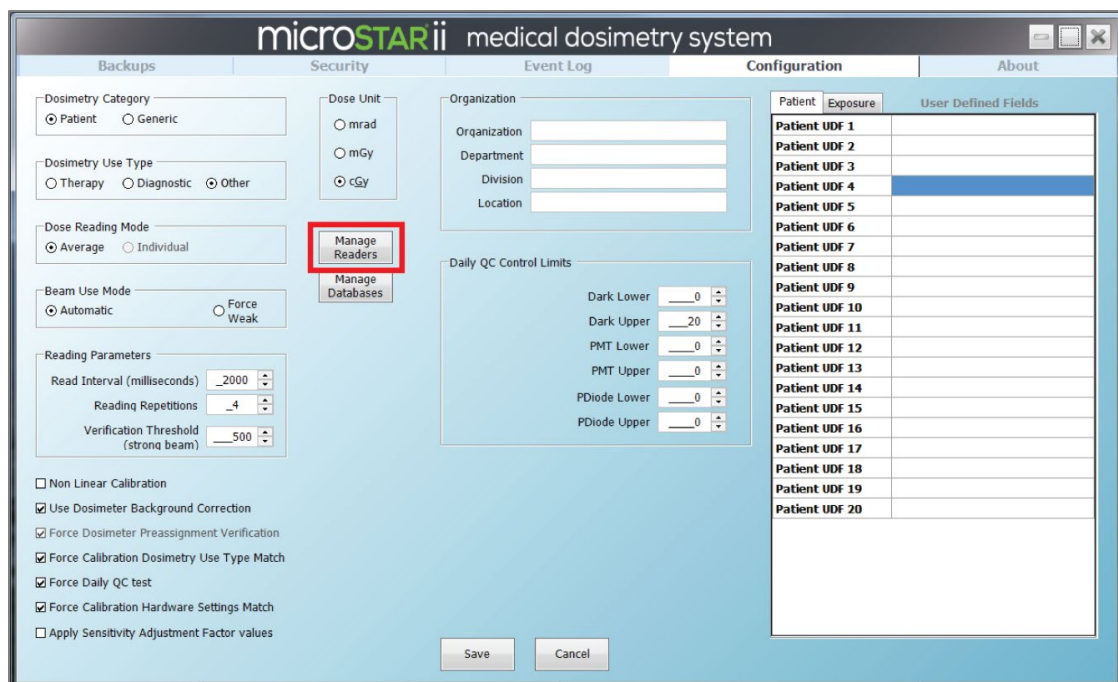

Figure 5-3: Configuration Tab – Manage Readers
**STEP 2:** Click the Manage Readers button. (Outlined in Figure 5-3 below.)